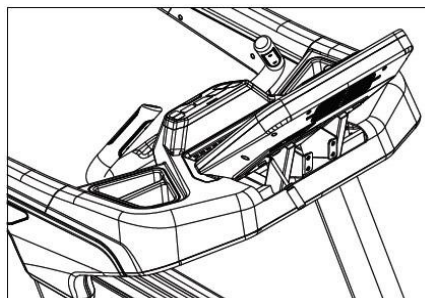

Figure 4.1.2
- 5) As shown in Figure 4.1.2, remove the electronic control cable connector and use a cross screwdriver to remove the console.**